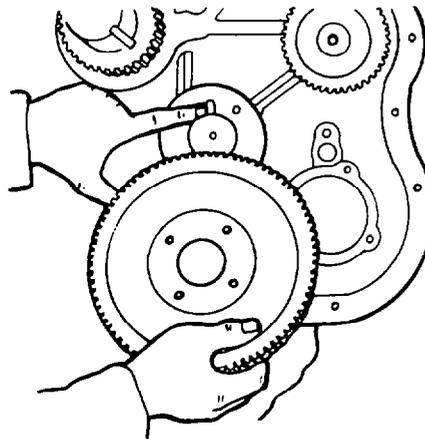

Fig. 52 — Auxiliary Shaft Key Location
- k. Bend the lock-tab away then remove the nut securing the air compressor drive coupling to the auxilliary drive shaft; remove the coupling and the oil pump drive gear from the shaft; remove the coupling key from the shaft (see fig. 52).